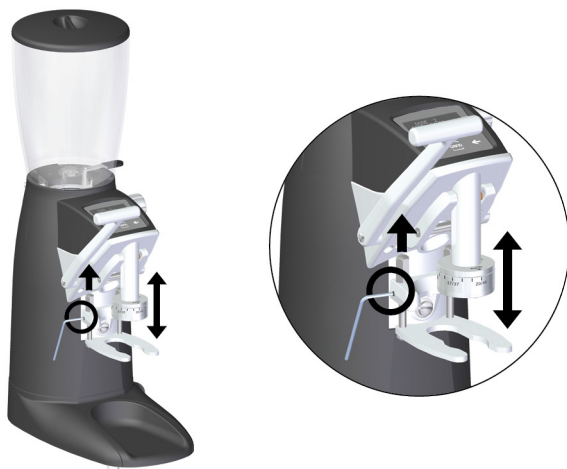

Fig. 2
1. Remove screw caps (**Fig. 2**) using a flat headed screw driver.
3. Replace and tighten the screw caps (**Fig. 2**).